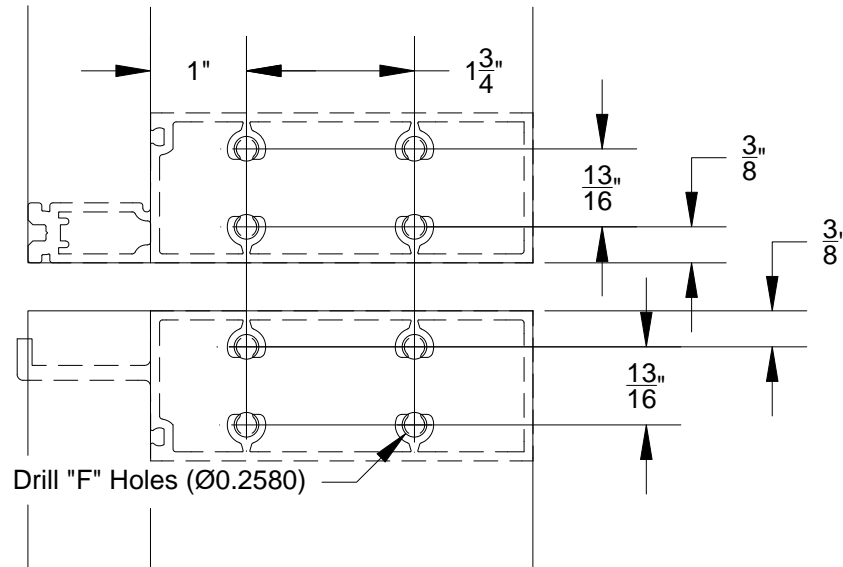

FIGURE 39
- 3.24 When using the WW-427 & WW-428, horizontals for the expansion horizontal connection fabricate top and bottom of mullion as shown in FIGURE 39. If using WW-527 & WW-528 fabricate per FIGURE 40.